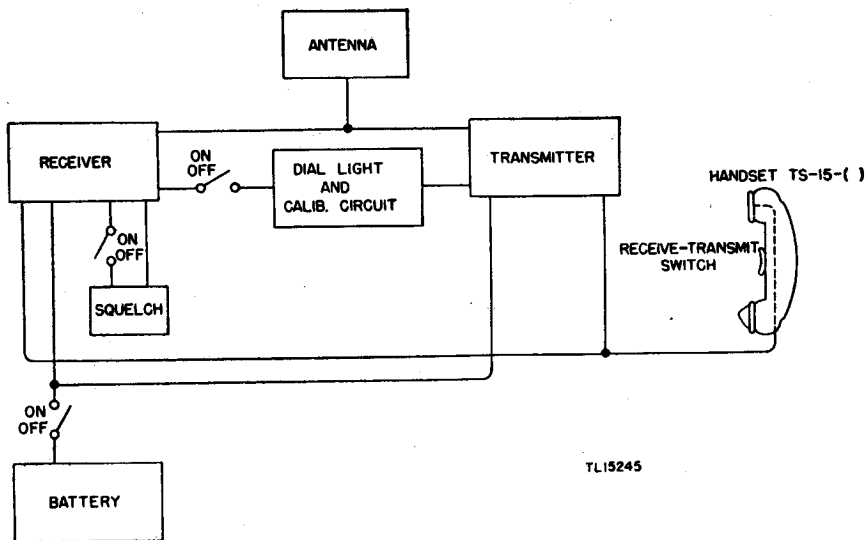

Figure 1. Radio Set SCR-300-A—simplified block diagram.
a. GENERAL. The receiver of Radio Receiver and Transmitter BC-1000-A, main component of Radio Set SCR-300-A, uses a double superheterodyne circuit. The transmitter is frequency modulated. The transmitter and receiver frequencies are the same for each channel and are varied by a single, ganged TUNING control. A simple block diagram of Radio Set SCR-300-A is shown in figure 1. The functions of certain supplementary circuits are described below.